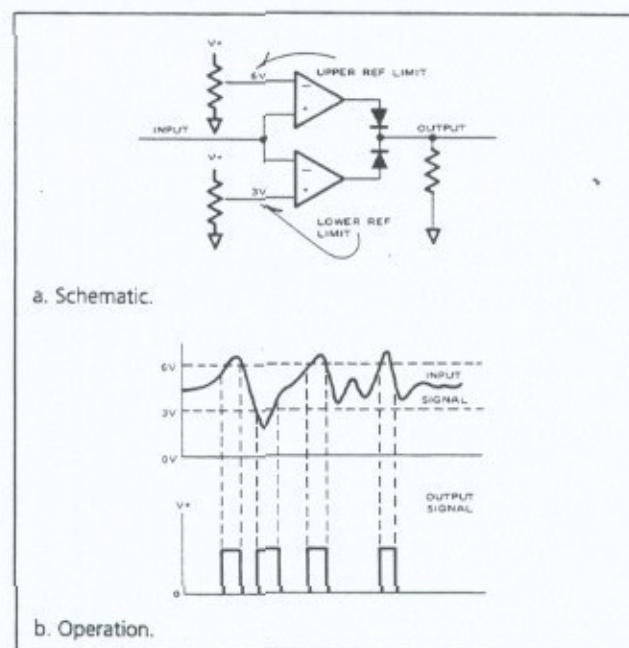

Figure 9-11. Typical window detector
a. Window Detectors. A window detector is a circuit whose output changes state whenever its input signal is not within specific limits. A typical window detector is shown in Figure 9-11. Voltage dividers on its inputs set the window limits; in this case, +3 volts minimum and +6 volts maximum. As long as the input voltage is within these limits, there will be no output signal.